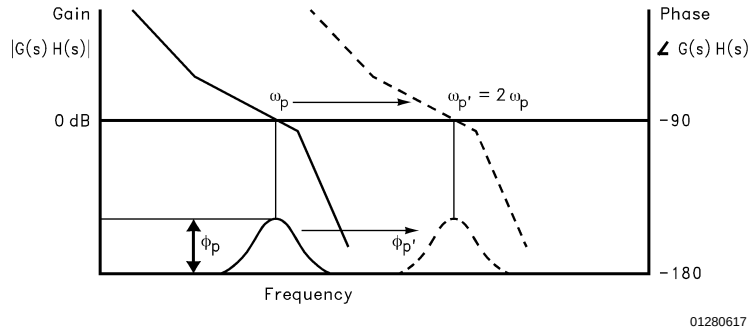

FIGURE 4. Open Loop Response Bode Plot
A plot of the magnitude and phase of  $G(s)H(s)$  for a stable loop, is shown in *Figure 4* with a solid trace. The parameter  $\phi_p$  shows the amount of phase margin that exists at the point the gain drops below zero (the cutoff frequency  $\omega_p$  of the loop). In a critically damped system, the amount of phase margin would be approximately 45 degrees.
If we were now to redefine the cut off frequency,  $\omega_p'$ , as double the frequency which gave us our original loop bandwidth,  $\omega_p$ , the loop response time would be approximately halved. Because the filter attenuation at the comparison frequency also diminishes, the spurs would have increased by approximately 6 dB. In the proposed Fastlock scheme, the higher spur levels and wider loop filter conditions would exist only during the initial lock-on phase—just long enough to reap the benefits of locking faster. The objective would be to open up the loop bandwidth but not introduce any additional complications or compromises related to our original design criteria. We would ideally like to momentarily shift the curve of *Figure 4* over to a different cutoff frequency, illustrated by the dotted line, without affecting the relative open loop gain and phase relationships. To maintain the same gain/phase relationship at twice the original cutoff frequency, other terms in the gain and phase *Equation (4)* and *Equation (5)* will have to compensate by the corresponding "1/w" or "1/w2" factor. Examination of equations *Equations (2), (3)* and *Equation (5)* indicates the damping resistor variable  $R2$  could be chosen to compensate the "w" terms for the phase